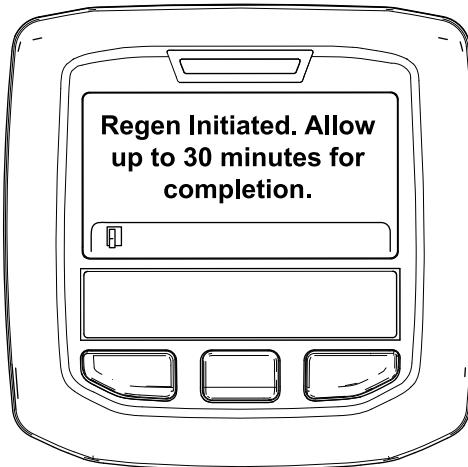

Figure 49
- If the regeneration is allowed, the “Regen Initiated. Allow up to 30 minutes for completion” message displays in the InfoCenter, wait for the machine to complete the parked regeneration process (Figure 49).